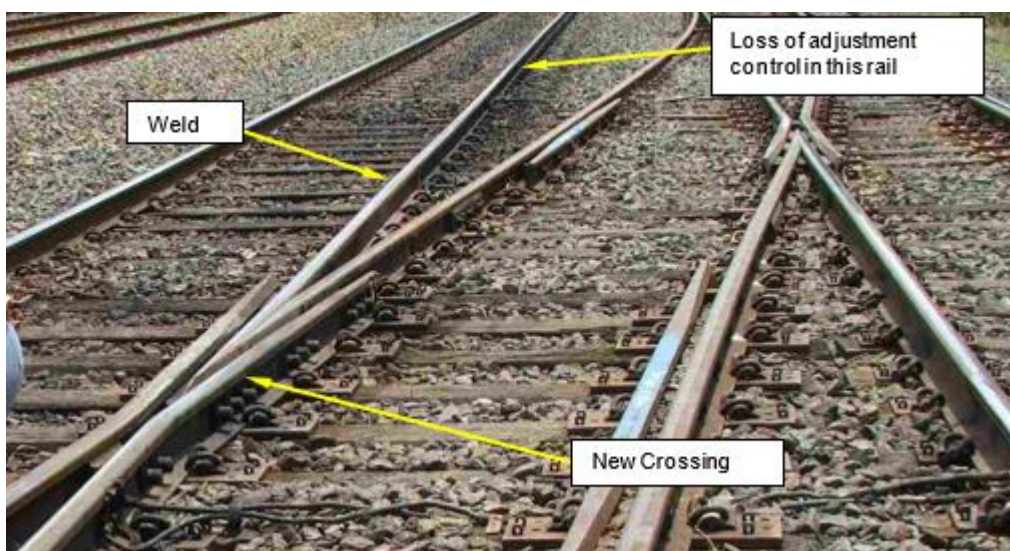

Figure 25 - Area where adjustment control is lost
When adjusting adjacent to Level Crossings, for example between B and D in Figure 25 establish the anchor point at the opposite end of the level crossing (E). This will ensure that rail is adjusted right to the fixed point. Before commencing adjustment on the opposite end of the level crossing, (EG) install a new anchor point at D then remove the old anchor point.